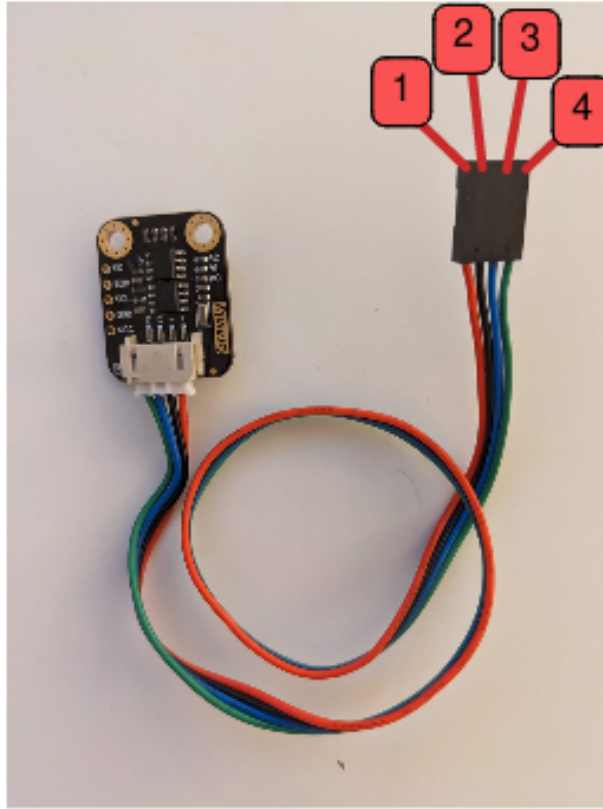

Figure 1
First, connect the module to the Nucleo board. Using jumper cables, make the connections shown in Figures 1 and 2.
4. Disconnect and reconnect power from the RTC board (cable 1 from Figure 1) to emulate a power cycle. Restart the board with the reset button.